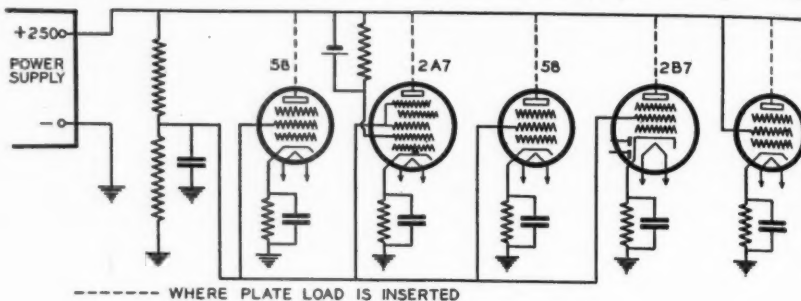
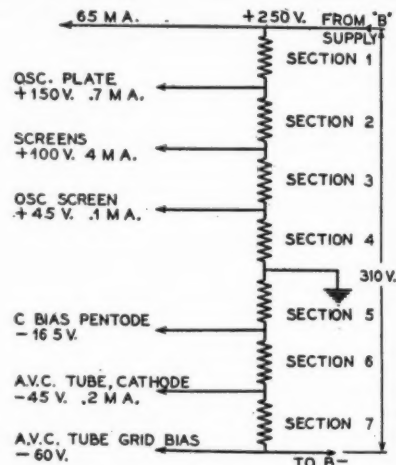

FIG. 1A
FIG. 2
The tube manual will show that all tubes require the same screen voltage (100 volts) and so it would be possible to supply these screens from a voltage divider with a single tap as shown in Fig. 1A. This divider can also consist of two separate resistors of the right value. Lately, many of the small sets have no longer a vitreous enamelled resistor but include a divider made up from two or more carbon resistors. As long as the current to be supplied is not too heavy this method can be used to advantage. It is recommended that the power consumption for each section be calculated and the resistor be chosen accordingly.
Fig. 2 represents a voltage divider for use in an average receiver. Right here it is necessary to point out a common error. Supposing the power supply (after passing through the choke and perhaps the
The value of I here should be the highest current any section is required to carry. If the divider is to consist of several resistors the wattage for each section should be calculated separately and the actual current in that section should be used for the calculation. This sounds complicated but it isn't. As an example the voltage divider shown in Fig. 2 will be discussed.
Step 2 requires the determination of the bleeder current. The total of all currents drawn by tubes, as shown in Fig. 2, is 70 MA. Assuming that a transformer is used
The calculation of the correct resistance values and the power rating of voltage dividers involves nothing but the use of Ohm's Law and Kirchoff's Law ($\sum i = 0$). When a voltage divider as in Fig. 1A and Fig. 2 is to be used one can arrive at the proper values by experimentation or by calculation. For an experimenter or a designer of just one set or for the replacement of a divider which is no longer made, it is perhaps easiest to employ a so-called "adjustable voltage divider". In its most up-to-date form, this unit consists of a vitreous enamelled resistor having the enamel removed along a line running the entire length of the resistor and about a quarter inch wide so that sliding straps can make contact with the bare wire. This type is available in different lengths and with several adjustable sliders as shown in Fig. 3. The sliders can be adjusted until the voltages and currents are correct as determined by suitable measuring instruments. There remains to be determined the correct size to use.
A simple push-pull version of the "linear" oscillator is shown in figure 2. Here we have four rods and two tubes, with RF chokes in all filament leads. The tubes may again be triodes with the proper filament and plate voltages. Of course different values of grid leaks will be required; the values indicated are approximate and will serve as a starter.